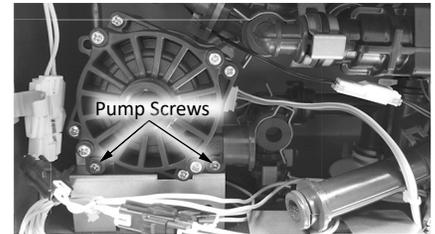

Figure 79: Pump screw removal.
- 7 Remove the two screws securing the recirculation pump to the base of the water heater. See Figure 79.
- 10 Secure the new recirculation pump to the water heater with the two screws removed earlier. See Figure 79.